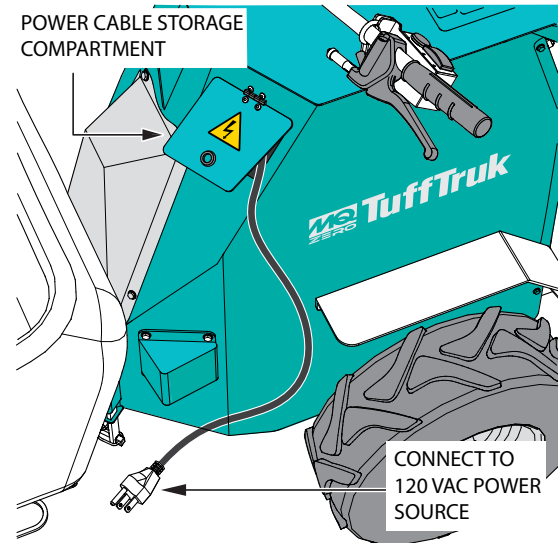

Figure 23. Battery Charger Power Cable
3. Remove the battery charger power cable from the storage compartment as shown in Figure 23.